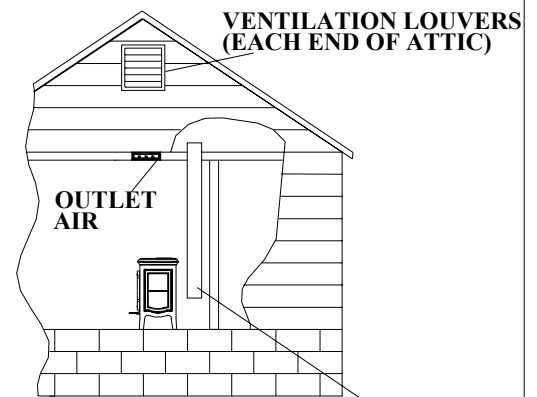

FIGURE 8 INLET AIR DUCT (ENDS 1 FT ABOVE FLOOR)
B. Where communicating with the outdoors through vertical ducts, each opening shall have a minimum free area of 1 square inch per 4,000 BTU/hr (5.5 cm² / kW) of total input rating of all equipment in the enclosure (See Figure 8).